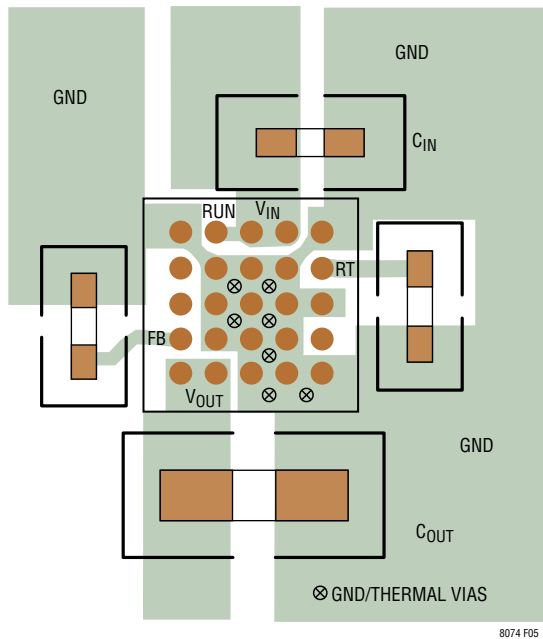

Figure 5. Layout Showing Suggested External Components, GND Plane and Thermal Vias
Most of the headaches associated with PCB layout have been alleviated or even eliminated by the high level of integration of the LTM8074. The LTM8074 is nevertheless a switching power supply, and care must be taken to minimize EMI and ensure proper operation. Even with the high level of integration, you may fail to achieve specified operation with a haphazard or poor layout. See Figure 5 for a suggested layout. Ensure that the grounding and heat sinking are acceptable.
- Use vias to connect the GND copper area to the board's internal ground planes. Liberally distribute these GND vias to provide both a good ground connection and thermal path to the internal planes of the printed circuit board. Pay attention to the location and density of the thermal vias in Figure 5. The LTM8074 can benefit from the heat-sinking afforded by vias that connect to internal GND planes at these locations, due to their proximity to internal power handling components. The optimum number of thermal vias depends upon the printed circuit board design. For example, a board might use very small via holes. It should employ more thermal vias than a board that uses larger holes.